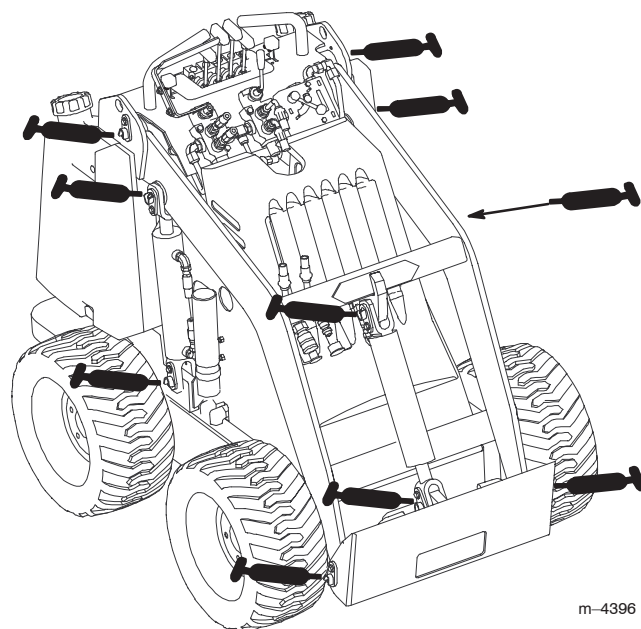

Figure 18
3. Connect a grease gun to each fitting (Fig. 18 and 19).